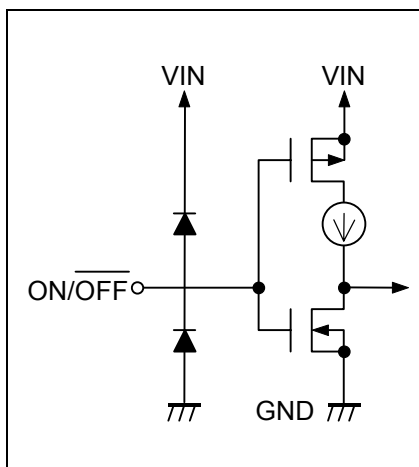

Figure 11
The structure of the ON/OFF pin is as shown in **Figure 11**. Since the ON/OFF pin is neither pulled down nor pulled up internally, do not use it in the floating state.
- The ON/ $\overline{\text{OFF}}$ pin is configured as shown in **Figure 11** and is neither pulled up or down internally, so do not use this pin in a floating state. When not using the ON/ $\overline{\text{OFF}}$ pin, connect it to the VIN pin. Moreover, please do not apply voltage higher than VIN + 0.3 V to an ON/ $\overline{\text{OFF}}$ pin. Current flows for a VIN pin through the protection diode inside IC.